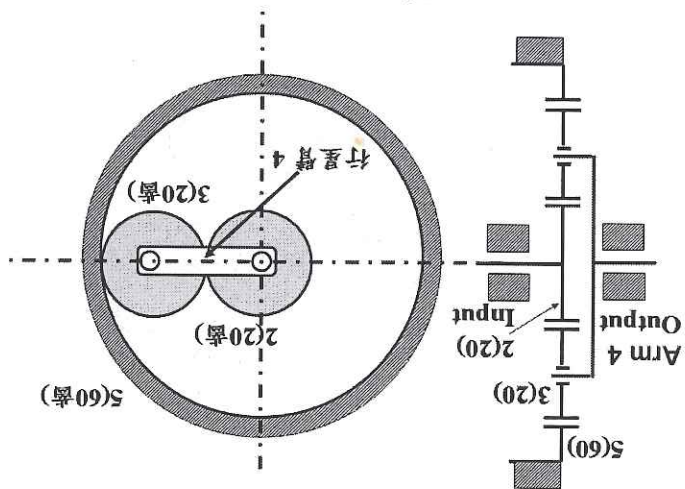

Fig. 5 Planetary gear train
4. For a gear pair with module $m=2.0$ and pressure angle $\phi=20^\circ$, a pinion ($N=24$) drives a gear ($N=72$). Please find (a) Contact length (L_c), (b) Contact ratio (γ_o). If center distance (C) increases 0.05mm, please find (c) New pressure angle $\phi'=?$, (d) new Contact length (L_c'). (25%)
5. For the planetary gear train shown in figure 5 (Ring gear 5 is fixed), if $\omega_2=3600\text{rpm}$ (CCW), please find ω_4 (value and its direction). (15%)